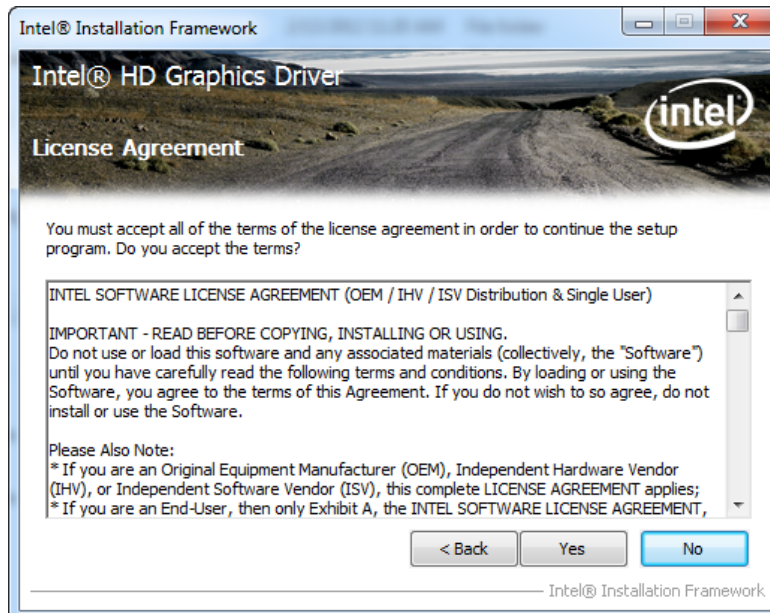

Figure 5-11: Graphics Driver License Agreement
Step 10: The License Agreement in Figure 5-11 appears.